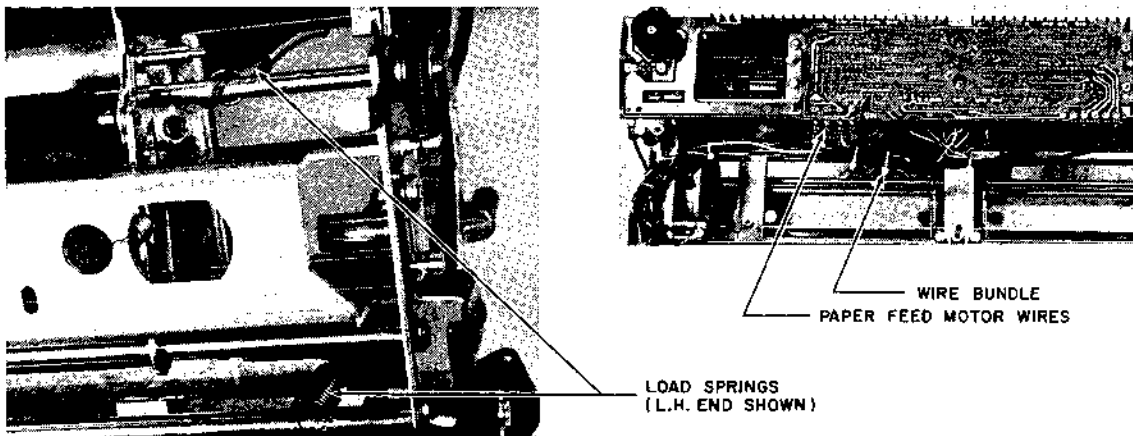

Figure 5-6 CARRIER SYSTEMS REMOVAL - A
3. Dismount the Cover Open switch and bracket, if installed. Stand the printer up on the front end of its main frame. Use the T-Handle Spring Hook #99009 to disengage the 4 Carrier System load springs from the printer's main frame (2 long springs in front and 2 shorter springs in the rear). Open the wire bundle and disconnect the 4 paper feed motor wires from the Motherboard PCB. Refer to Figure 5-6.